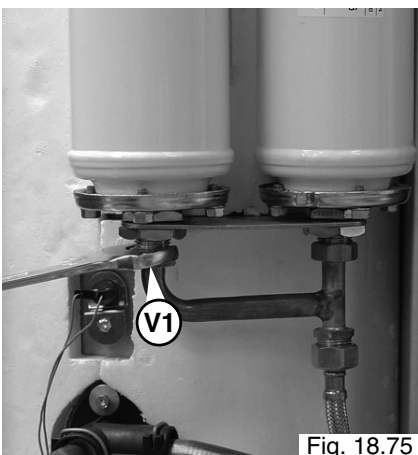

Fig. 18.75
2. Remove the nut "V1" with a No.24 spanner (see Fig. 18.75);